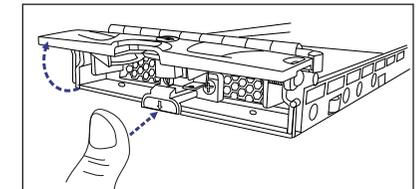

Figure 3: Opening Drive Tray Front Flap
- Step 2.** Open the front flap on the drive tray by pushing the release button on the front of the drive tray in a downward direction. (See **Figure 3**)